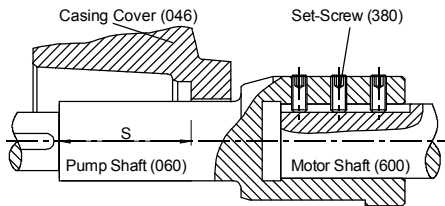

Fig. 8.
- Place the motor (600) vertical as the shaft end comes to the upper side.
- Assemble the motor pedestal (012) to the motor (600).
- Slip the pump shaft (060) onto the motor shaft.
- Place the stuffing box cover (046) onto the motor pedestal (012)
- Make the alignment of the pump shaft's location to provide the length as per the length "S" given in **section K**. ("S" is the distance between the shaft shoulder and the end of the mechanical seal chamber. (**See Fig. 8**). Tighten the set-screws (for the shaft consists of 3 set-screws starting from the one in the middle and if or the shaft consists of 2 set-screws start from the one near the motor).
- Slip the rotating part of the mechanical seal onto the pump shaft (060) and place the spacer sleeve (067).
- Place the impeller key (210) into keyway, slide the impeller (050) onto the shaft (060) and screw the impeller nuts (065).
- Assemble the volute casing (001).
- Mouth the base plate (011) to the pump (if used).